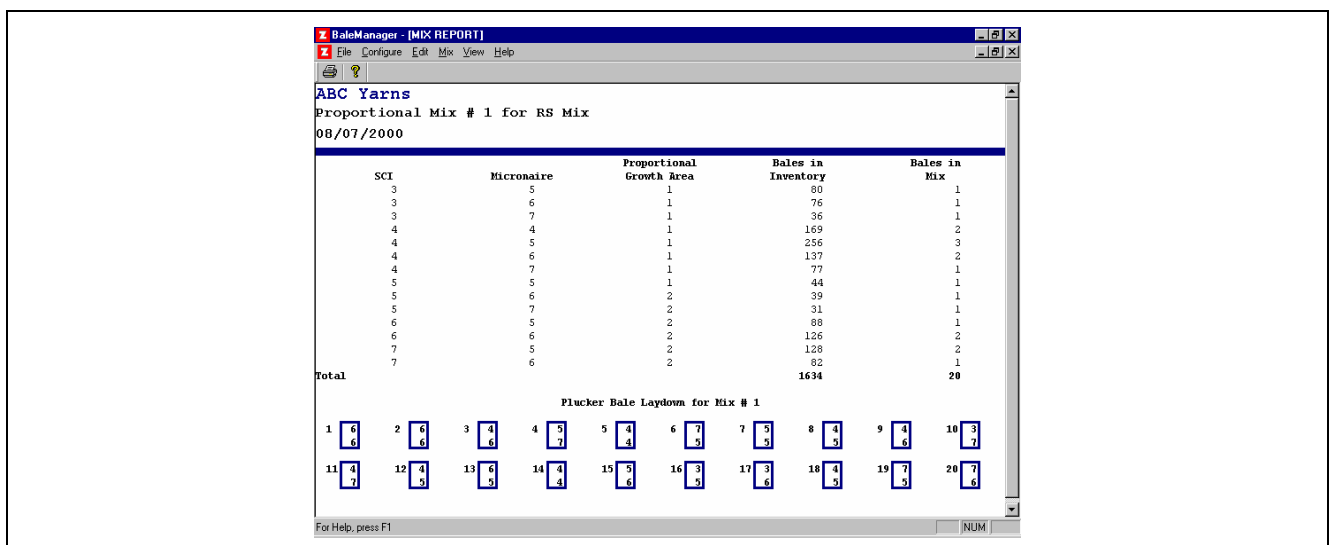
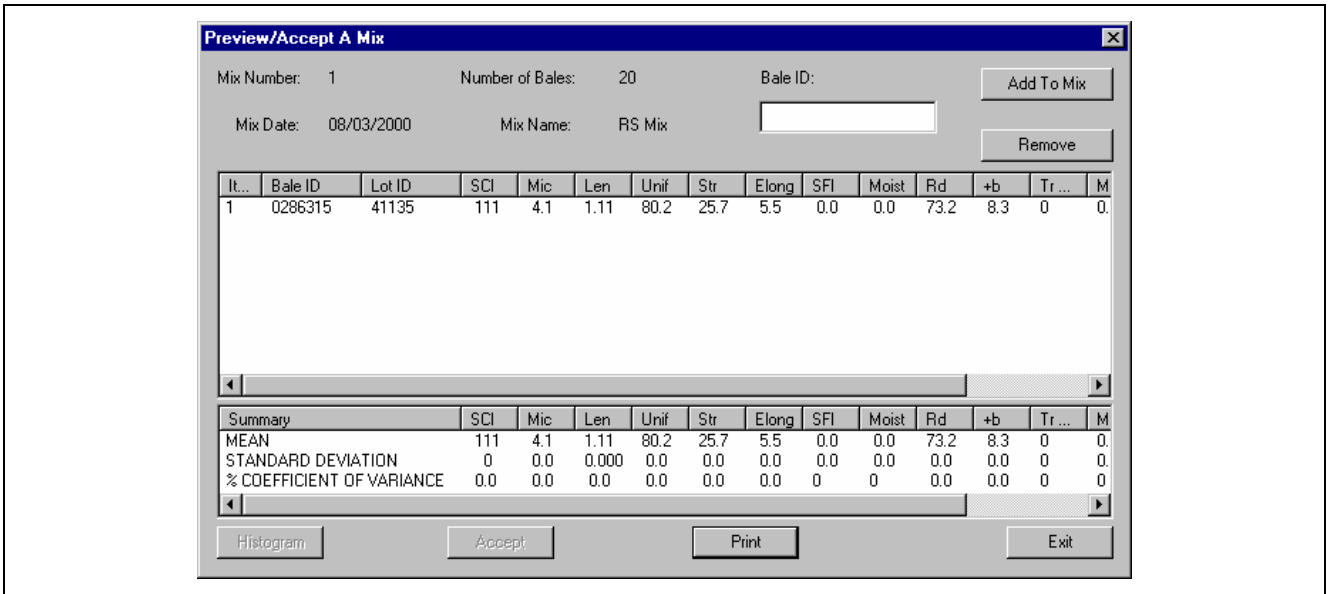

Fig. 6-46 Mix Report Screen
Fig. 6-49 Preview/ Accept A Mix Screen II
13.2 The window Bale Manager – (MIX REPORT) will appear showing the information required for use in selecting bales from the warehouse (Fig. 6-46 below). A print of this window should be made and handed over to the person responsible for moving bales from the Warehouse into the Spinning Mill Opening Room.
Enter a number at Bale ID. For instance, if the Bale ID for the first Bale listed in Fig. 6-46 (the 351 Category Bale) is 0286315, enter that number, then select Add to Mix (Fig. 6-49).